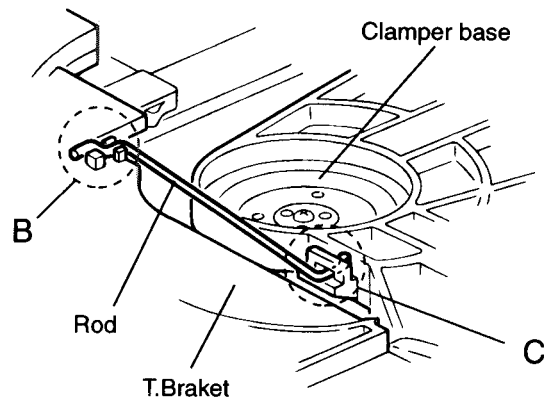

Fig.2
■Removing the CD tray assembly (See Fig.2~4)
4. From the T.bracket section "B" and clamber base section "C", remove both of the edges fixing the rod(See Fig.2 and 3).